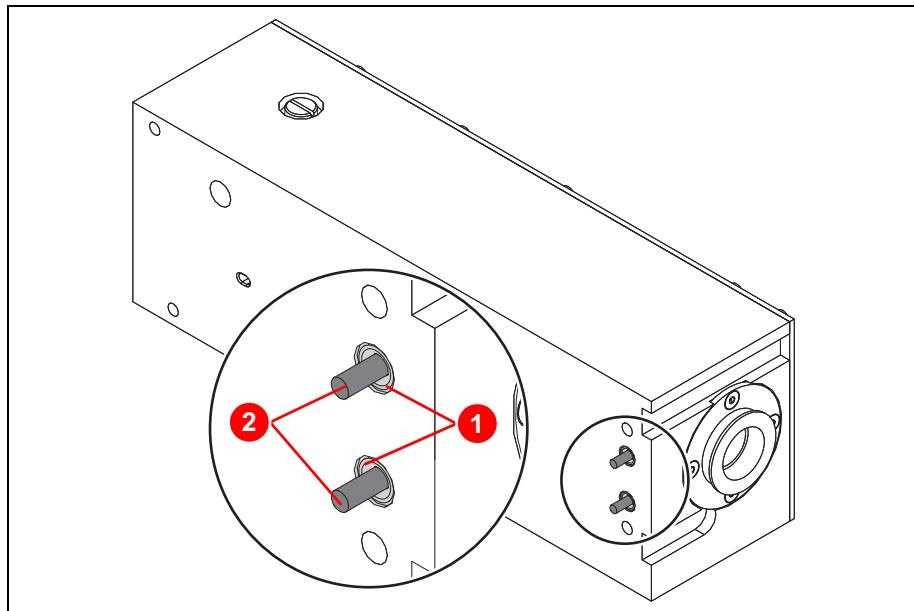

Figure 6.56 External modulator dowel pins
5. Check that the sockets (1) (Figure 6.56) do not project beyond the dowel pins.